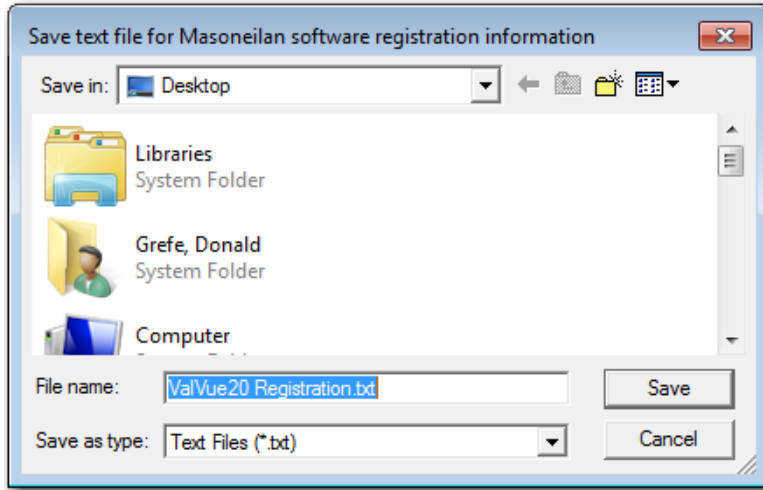

Figure 15 Save Registration Information
7. Click **Save to File** in Figure 14 to save your registration file and Figure 15 appears. Save the registration information in a text file.